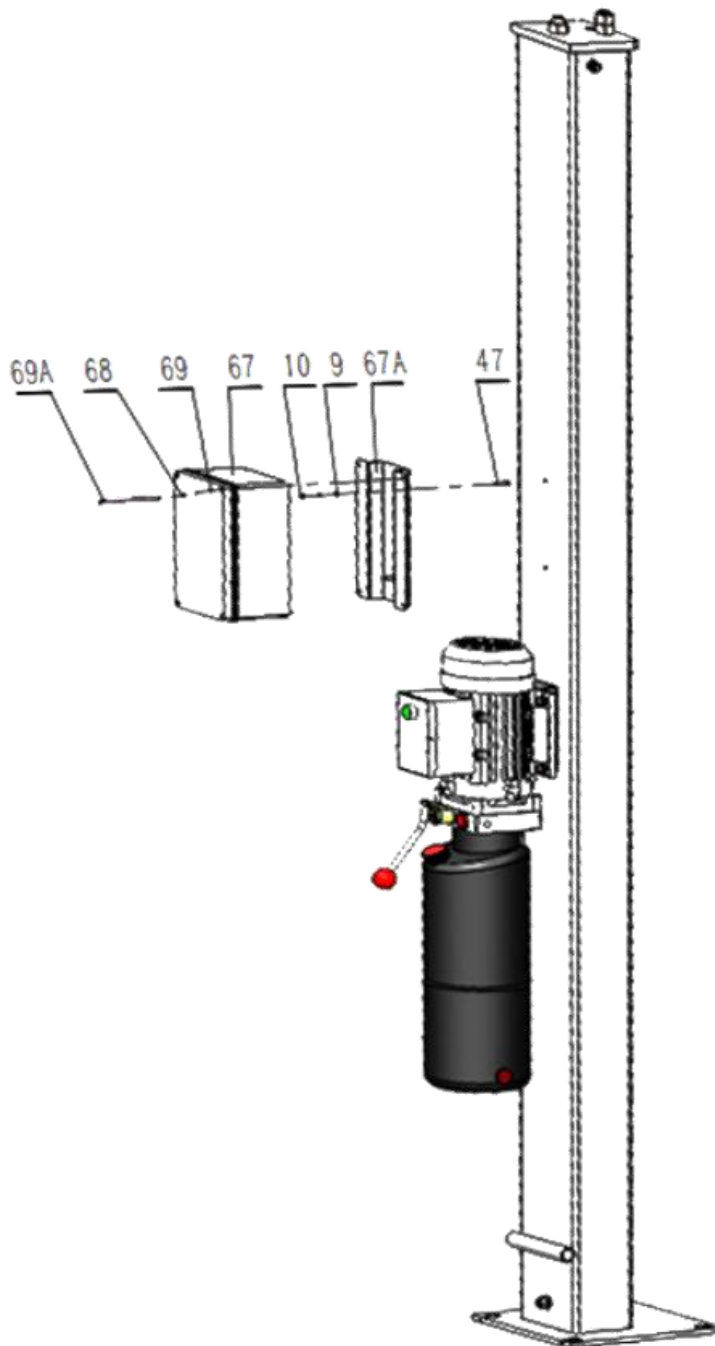

Fig.25
- L. Install the control box(See. Fig.25)**